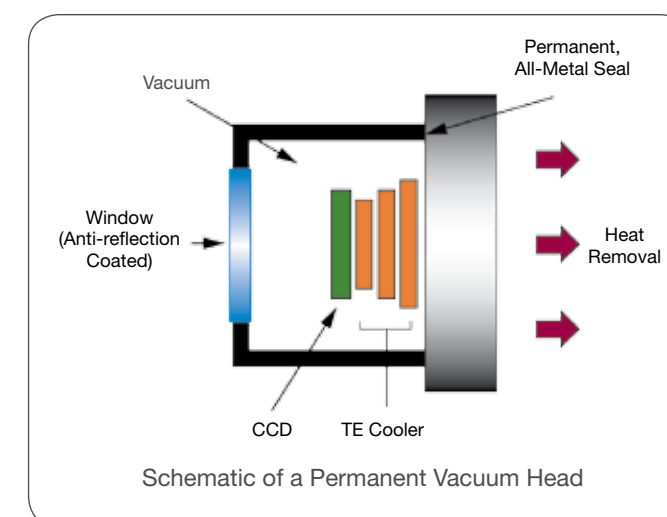

Figure 1
Figure 1 – (A) shows DARK IMAGES taken at x1000 gain at different vertical shift speeds, 29 ms exposure time. Cooling temperature was -85°C to ensure minimal Darkcurrent contribution.